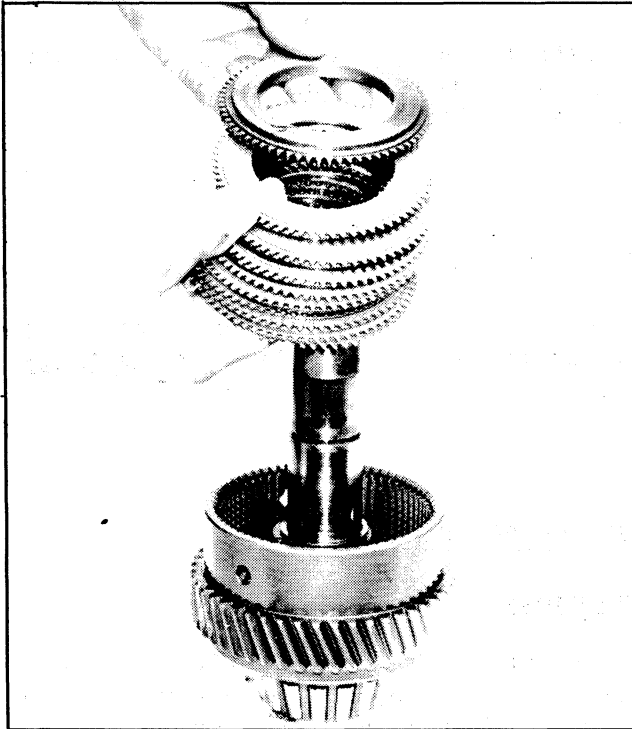

Figure 8-6. Removing or Installing Clutch Plates and Back Plate on Reverse Housing Gear.
8. Remove back plate (Figure 12-3, 8), faced clutch plates (7), and steel clutch plates (6). See Figure 8-6.
6. Install the back plate (8). See Figure 8-6.